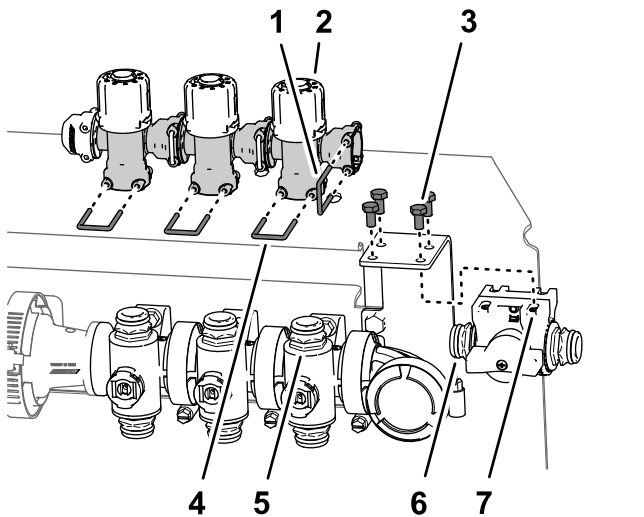

Figure 49
- Remove the 4 bolts (6 x 12 mm) that secure the bypass-shutoff valve to the valve-support bracket (Figure 49).
- Remove the retainer that secures the bypass-shutoff valve to the bypass valve for the right boom section valve, and remove the shutoff valve (Figure 49).
- Remove the 3 retainers that secure the 3 bypass valves to the 3 manifold valves (Figure 49).
4. Lift the 3 bypass valves from the 3 quick couplers of the manifold valves (Figure 49).